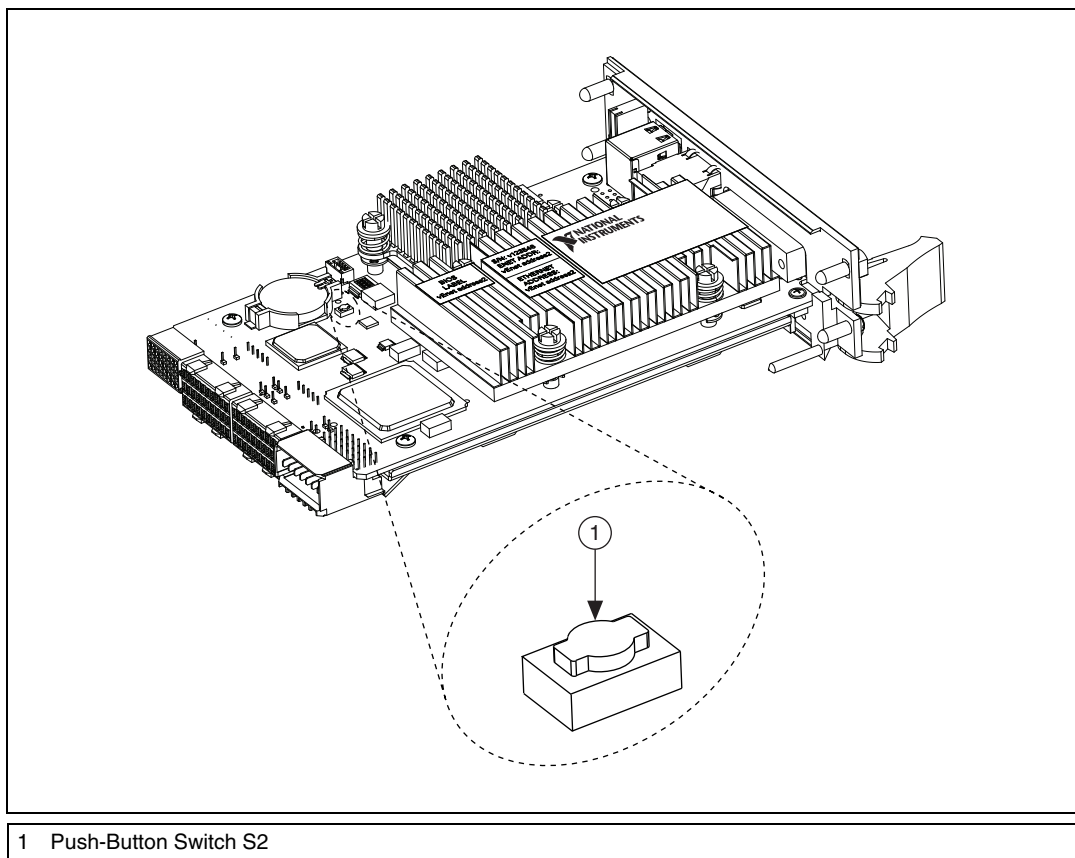

Figure 5-1. Clearing the CMOS Contents
3. Press and hold down the pushbutton switch SW2 for 2–3 seconds. The SW2 switch location is shown in Figure 5-1.